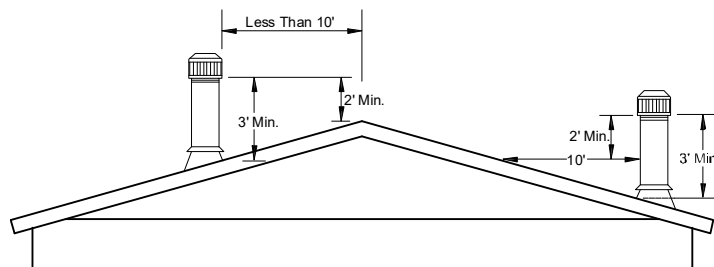

Figure 92. Chimney clearance
2. **Install chimney pipe.** Assemble and seal the chimney per the fireplace or wood stove manufacturer's installation instructions and if there is a conflict between the instructions and the figure, follow the instructions. To assure sufficient draft for proper operation, extend the chimney at least three feet above the highest point where it penetrates the roof and at least two feet higher than any surface within 10 feet of the chimney (**Figure 92**). Use additional section(s) of chimney pipe (not provided) if required by local code or if the site has obstructions within 10 feet of the chimney.